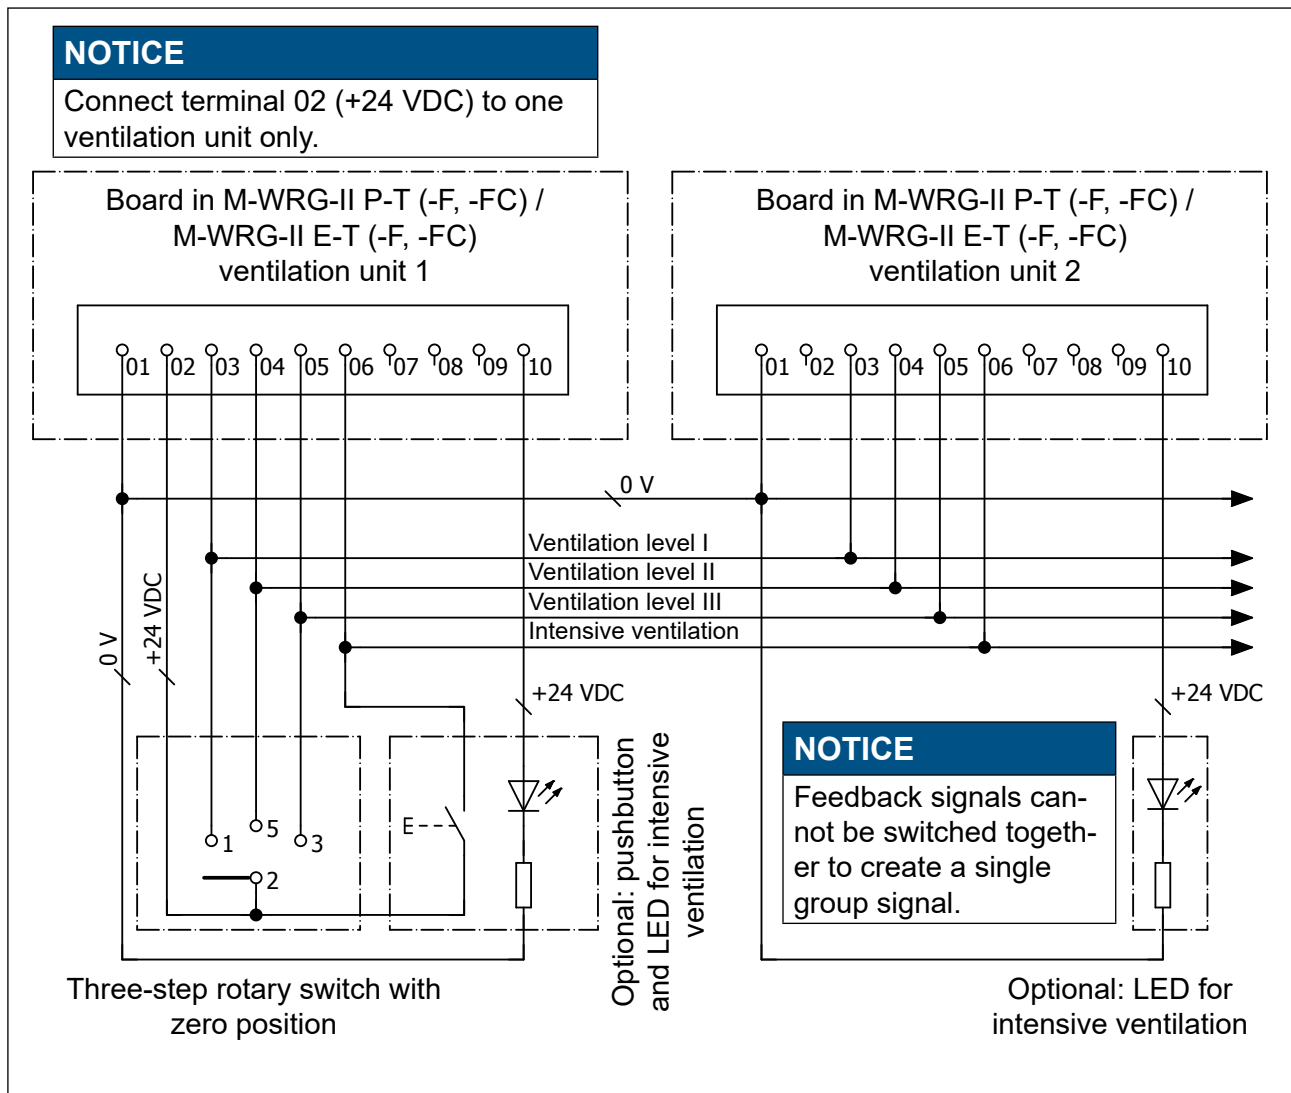

Fig. 37: Circuit diagram for wiring M-WRG-II P-T (-F, -FC) / M-WRG-II E-T (-F, -FC) ventilation units with control cable and optional pushbutton/LED
- Connect the control cable and optional pushbutton/LED to the ventilation unit boards (see terminal assignment in section 16.7.1 and circuit diagram in Fig. 37 on page 56).
- The terminals 01 (0 V) of all ventilation units must be connected to one another (see Fig. 37).
- The terminal 02 (+24 V DC) of the three-step rotary switch may only be connected to the terminal 02 of a single ventilation unit (see Fig. 37).